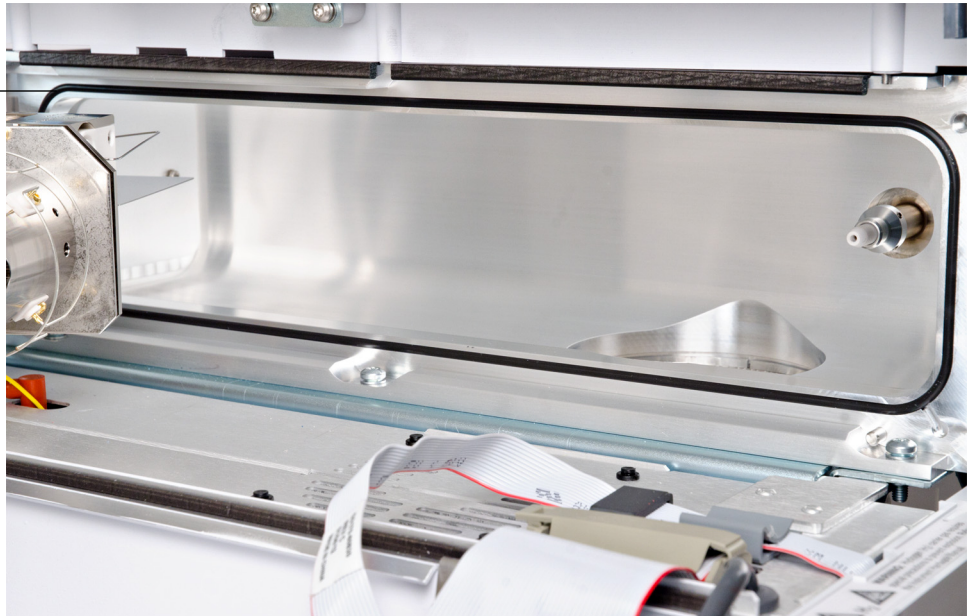

Figure 18 Side plate O-ring
- 3  Use a clean, lint-free cloth or glove to spread a *thin* coat of high vacuum grease only on the exposed surface of the O-ring (See Figure 18 on page 129).